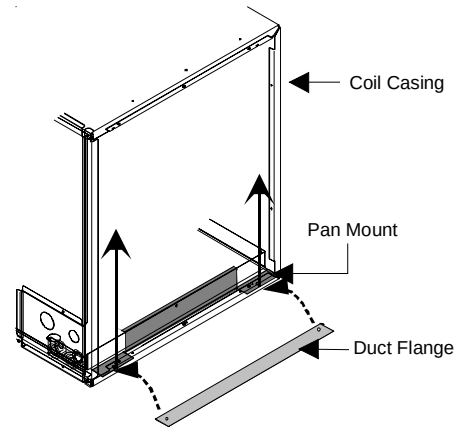

Figure 4
3. Lift up the pan mount and slide the bottom duct flange underneath onto the casing flange (Figure 4).